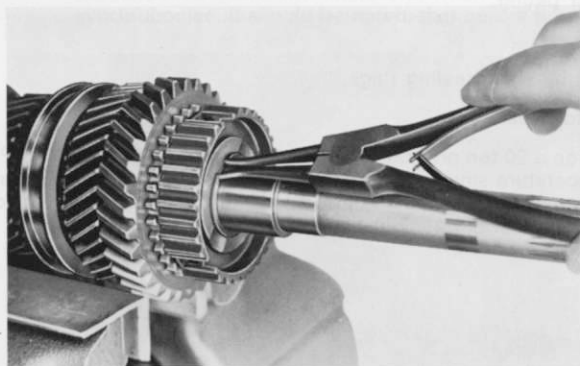

Fig. 20
body (419) and take off pressure piece (404). Remove circlip (409) from groove (Fig. 20) and mark position of the synchro body on the mainshaft.